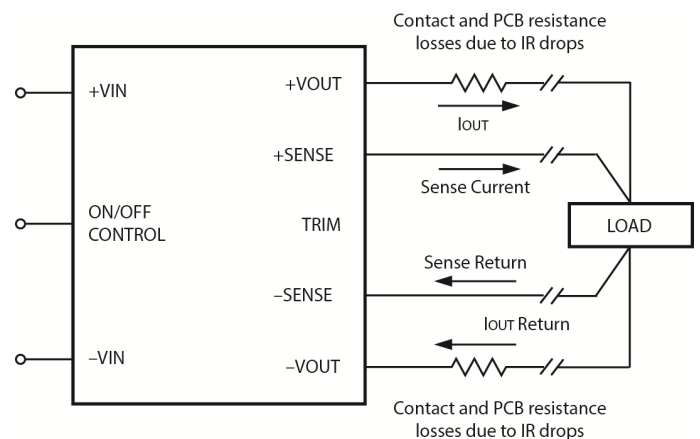

Figure 4. Remote Sense Circuit Configuration
**Positive** ("Blank" suffix) logic models are enabled when the On/Off pin is left open or is pulled high (see specifications) with respect to the -Input as per Figure 4. Positive-logic devices are disabled when the on/off pin is pulled low with respect to the -Input.